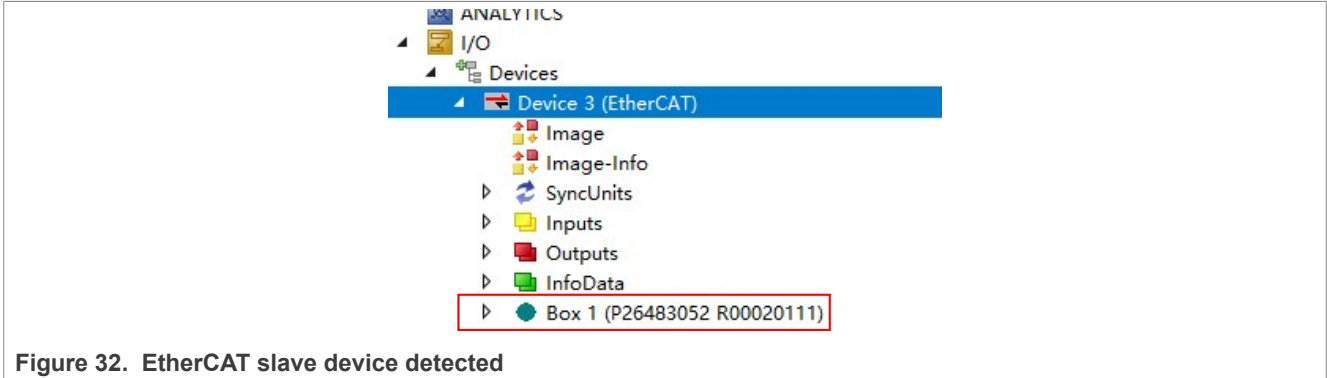

Figure 32. EtherCAT slave device detected
9. At this stage, the Box is detected. If it is the first-time scan of the EtherCAT slave device, the box is displayed as shown in Figure 32.